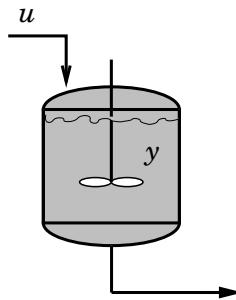

Figure 3.1 The continuous mixing tank in Problem 3.1.
- 3.1** Figure 3.1 shows a continuous mixing tank. The tank has a constant flow q and a constant volume V . The concentration of a chemical component is described by a first-order differential equation,